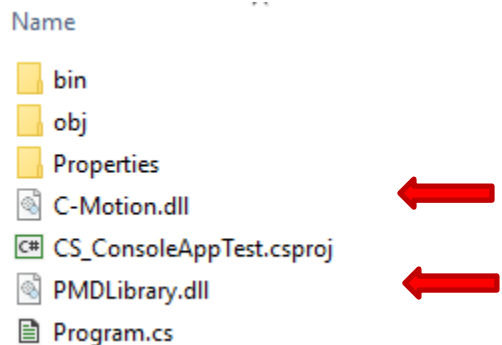

Figure 44 - VS2019 DLL Location
- 2) The appropriate (32bit (x86) or 64bit (x64)) dll files that are needed for the project should be pasted into the source folder of the project, in the same folder as Program.cs and Projectname.csproj, see Figure 44 - VS2019 DLL Location